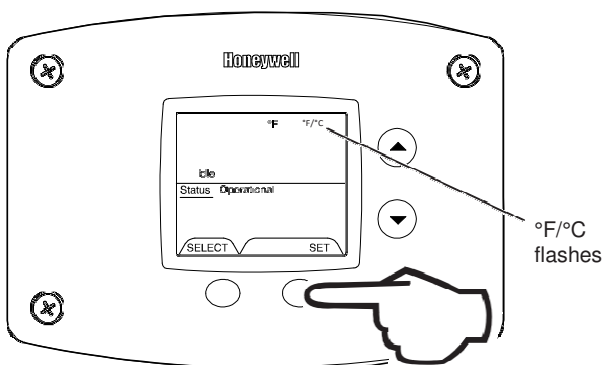

Fig. 20
2. Press 'SET' button to change temperature format. Symbol °F/ °C will flash (Fig. 20).